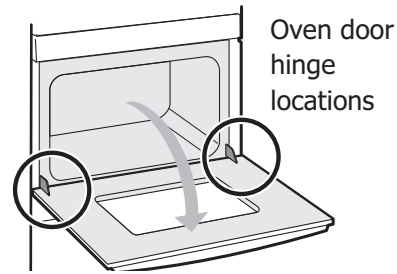

Figure 8: Door hinge location
1. Open oven door completely, horizontal with floor (See Figure 8).
3. Open the oven door horizontal with floor (See Figure 8).